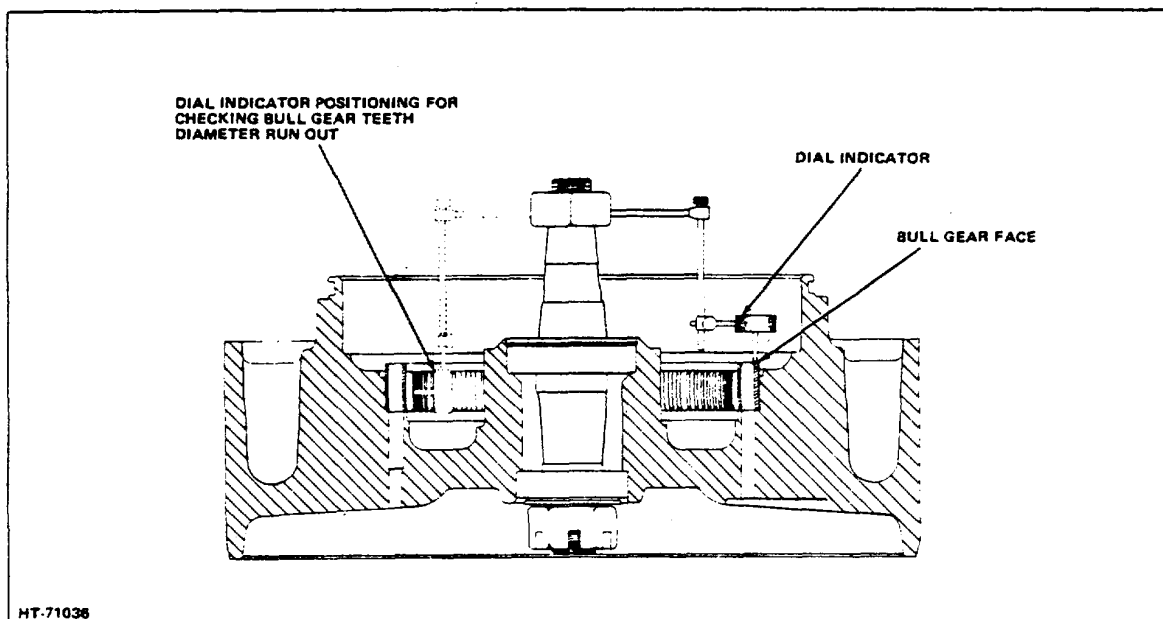

Figure 4-1. Checking Bull Gear Face and Teeth Run Out
11. If there is no change in the noise level, remove drive wheel spindle from drive axle housing and reassemble drive wheel and bearings to spindle. Mount a dial indicator to the spindle and check run out of the bull gear face and inside diameter of the bull gear teeth, see Figure 4-1. Run out on the bull gear face must not exceed .010". Maximum allowable run out on the inside diameter of the bull gear teeth is .005".